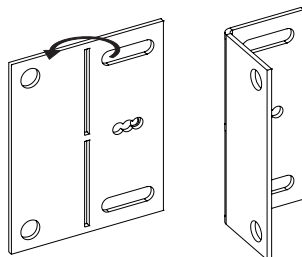

Figure 25
8. Bend the nailing flanges 90 degree as shown in **Figure 25.**